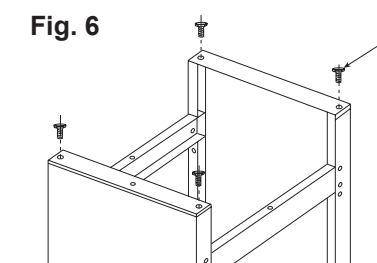

Fig. 6
1. Attach adjustable leg levelers (I) as shown in Fig. 1, Fig. 6. Leave unit upside down for next step.